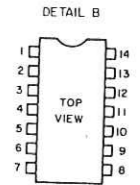

Figure 6-3. Type 76229 +6V and +12V Power Supply/AGC Amplifier (A3), Schematic Diagram
- B. Figure 6-3; Page 6-4; Type 76229 +6 V and +12 V Power Supply/AGC Amplifier (A3)